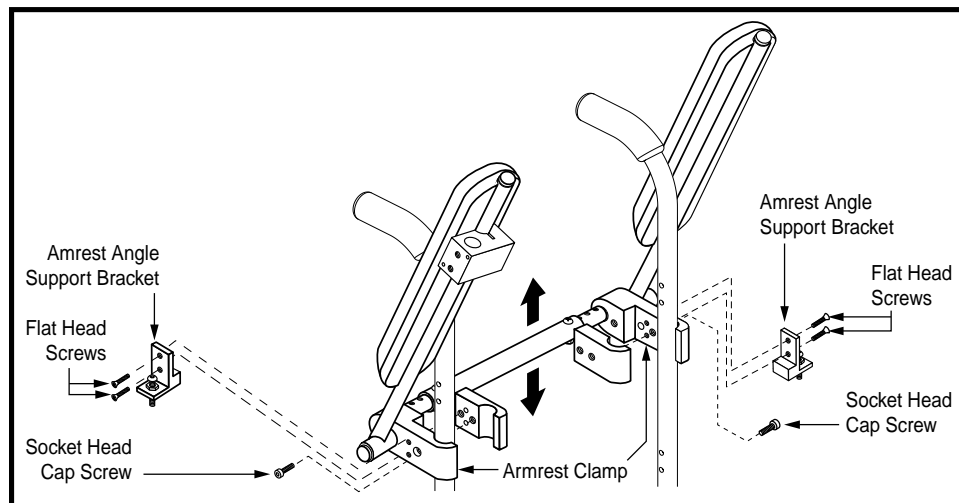

Figure 6. Flip-up Armrest Height Adjustment
4. Remove the two (2) flat head screws from the armrest angle support bracket, then remove the bracket. See figure 6.
5. Remove the socket head cap screw from the armrest clamp. See figure 6.
7. Reinstall the socket head cap screw to the armrest clamp. See figure 6.
8. Replace the armrest angle support bracket, then reinstall and tighten the two (2) flat head screws. See figure 6.